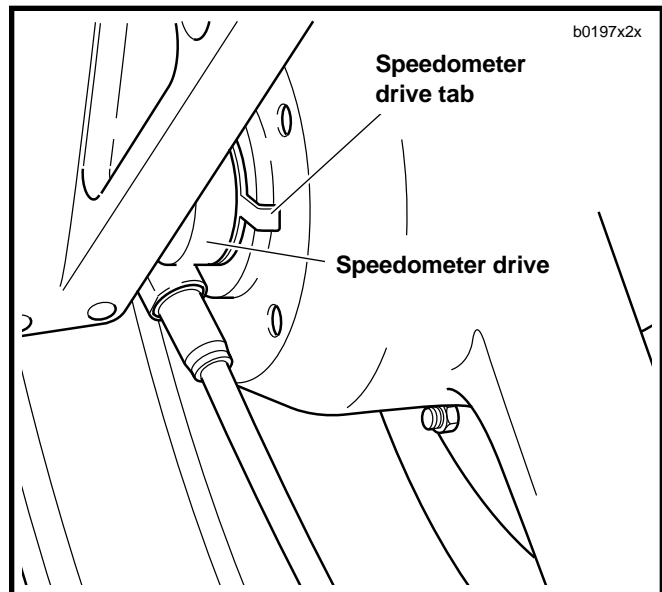

Figure 2-7. Speedometer Drive
3. See Figure 2-7. Align speedometer drive tab and wheel hub. Push axle through speedometer drive, speedometer drive spacer and left fork leg.